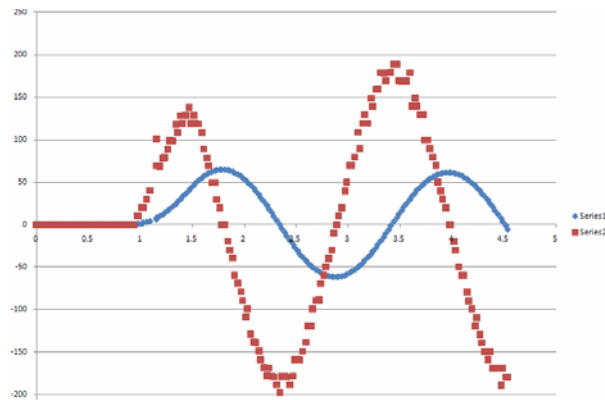

Figure 7: Excel plot of the acquired angle (blue) and velocity data (red)
**Step 2:** Run your program. Raise the pendulum to 60 degrees and release. Let the pendulum oscillate 5 to 10 times. Plot the recorded angle and velocity data. You should get a plot similar (not exact) to **Figure 7**.